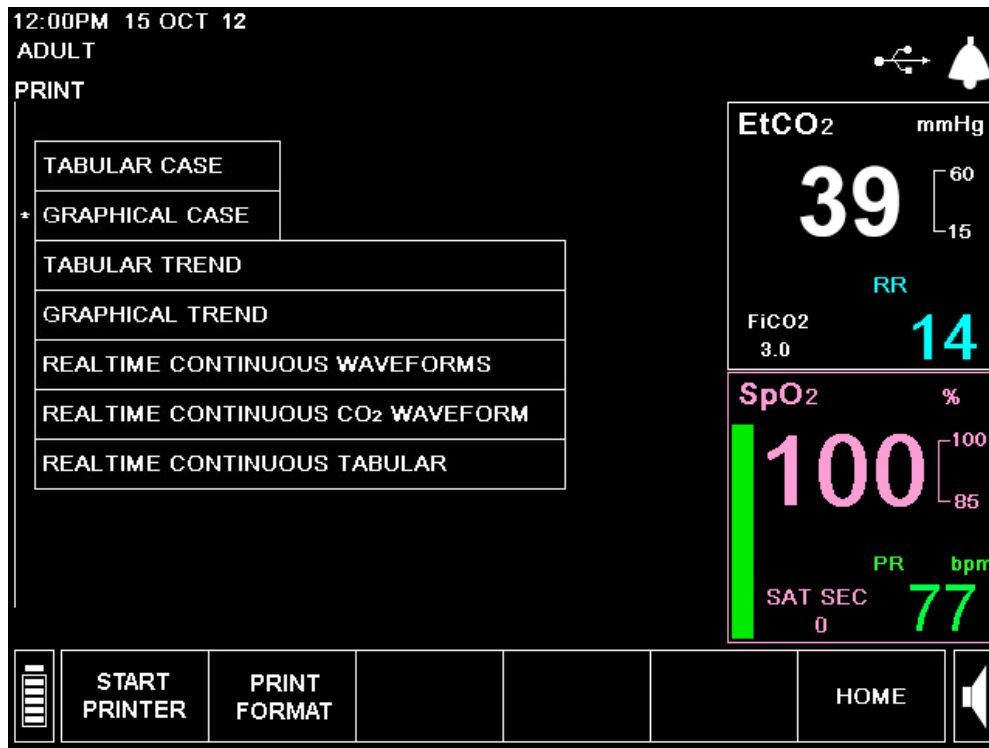

Figure 37 - Print Screen
2. On the Apnea and O₂ Desat screen which will appear, select *PRINT* to display the Print screen seen in Figure 37 - Print Screen on page 98.